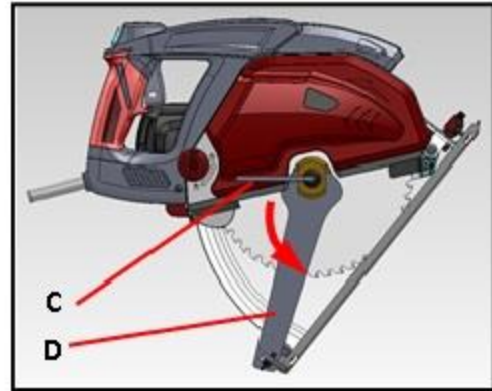

Fig.3
3. Use the included open-end wrench and Allen wrench to loosen the shaft screw (counter-clockwise). **Fig. 3.**